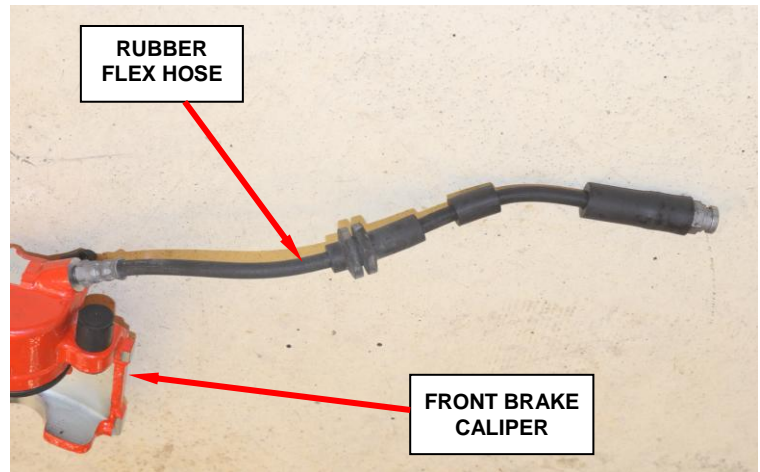

Figure 10 – Front Brake Caliper Rubber Flex Hose
55. Install new rubber flex hoses onto the right and left front brake calipers (Figure 10).